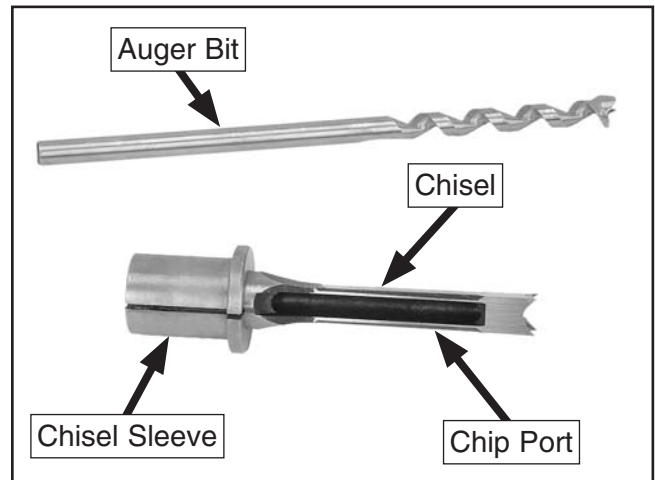

Figure 14. Components of the mortising chisel and bit assembly.
3. Insert the round end of the chisel into the correct chisel sleeve, as shown in **Figure 14**, making sure the flange of the sleeve is facing down.